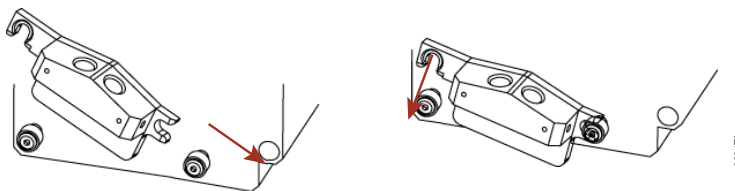

Figure 28. Return the injector tip holder to the optical head.
- Return the injector tip holder to the optical head. Position the holder just above the front pins on the optical head. Push the holder toward the right to lock the holder securely to the right pin of the optical head. Then push down and lock the holder on the left pin (Figure 28).